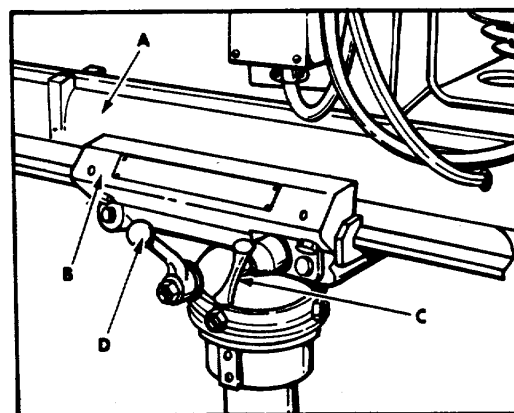

Figure 14
The ram (A) fig. 14, can be moved in or out in the carriage (B) to provide a maximum distance of 31" from the center line of the spindle to the column and a minimum distance of 13".
The ram (A) fig. 14, will swing a full 360 degrees around the column for drilling anywhere on or off the table. To swing the ram, loosen handle (D) fig. 14, rotate the carriage (B) to the desired angle and lock handle (D)